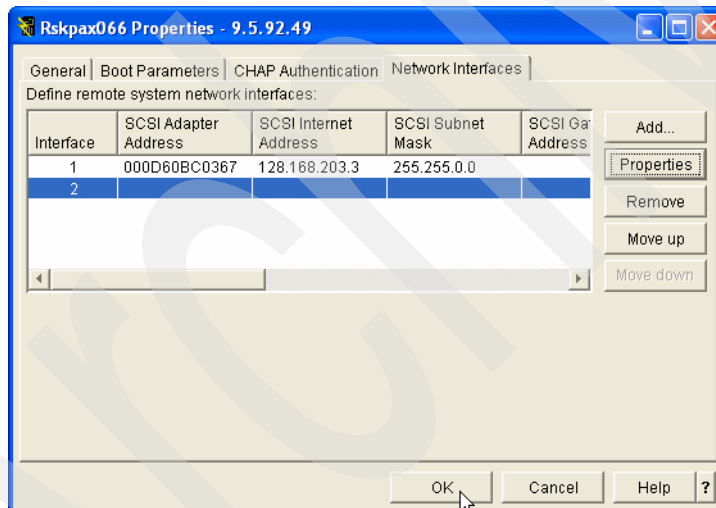

Figure 9-74 Disabling the SCSI side of an initiator HBA port - 3
7. Click **OK**. The interface is saved as shown in Figure 9-74. Notice that the SCSI IP addressing information for Network interface 2 is missing.